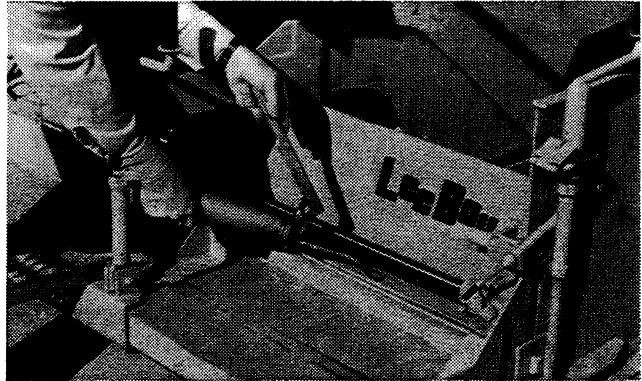

Figure 5-3—Extension Slide Lube
- Grease extension slide with multi-purpose grease or spray with fuel oil at points shown in Figure 5-3.